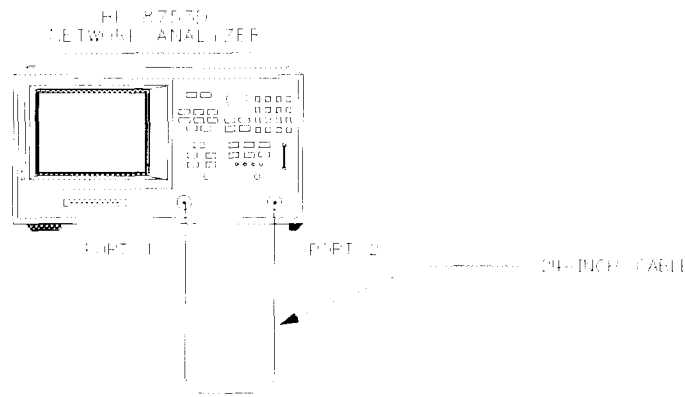

Figure 4-8. Setup for Checking the R Sampler (A4)
- 4 Connect the equipment as shown in Figure 4-8.